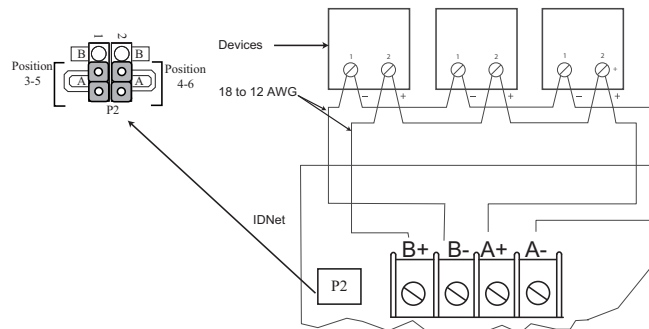

Figure 5-3. IDNet Class A Wiring
3. Route wiring from the first device to the next as in/out. See Figure 5-3. Repeat for each device.